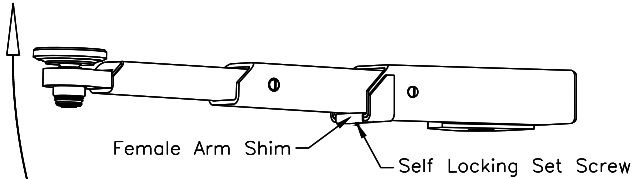

Fig 15 – Arm Shim, 3-Stage
- 57) Extend the arm fully and lift up on the male portion, **Fig 15**.